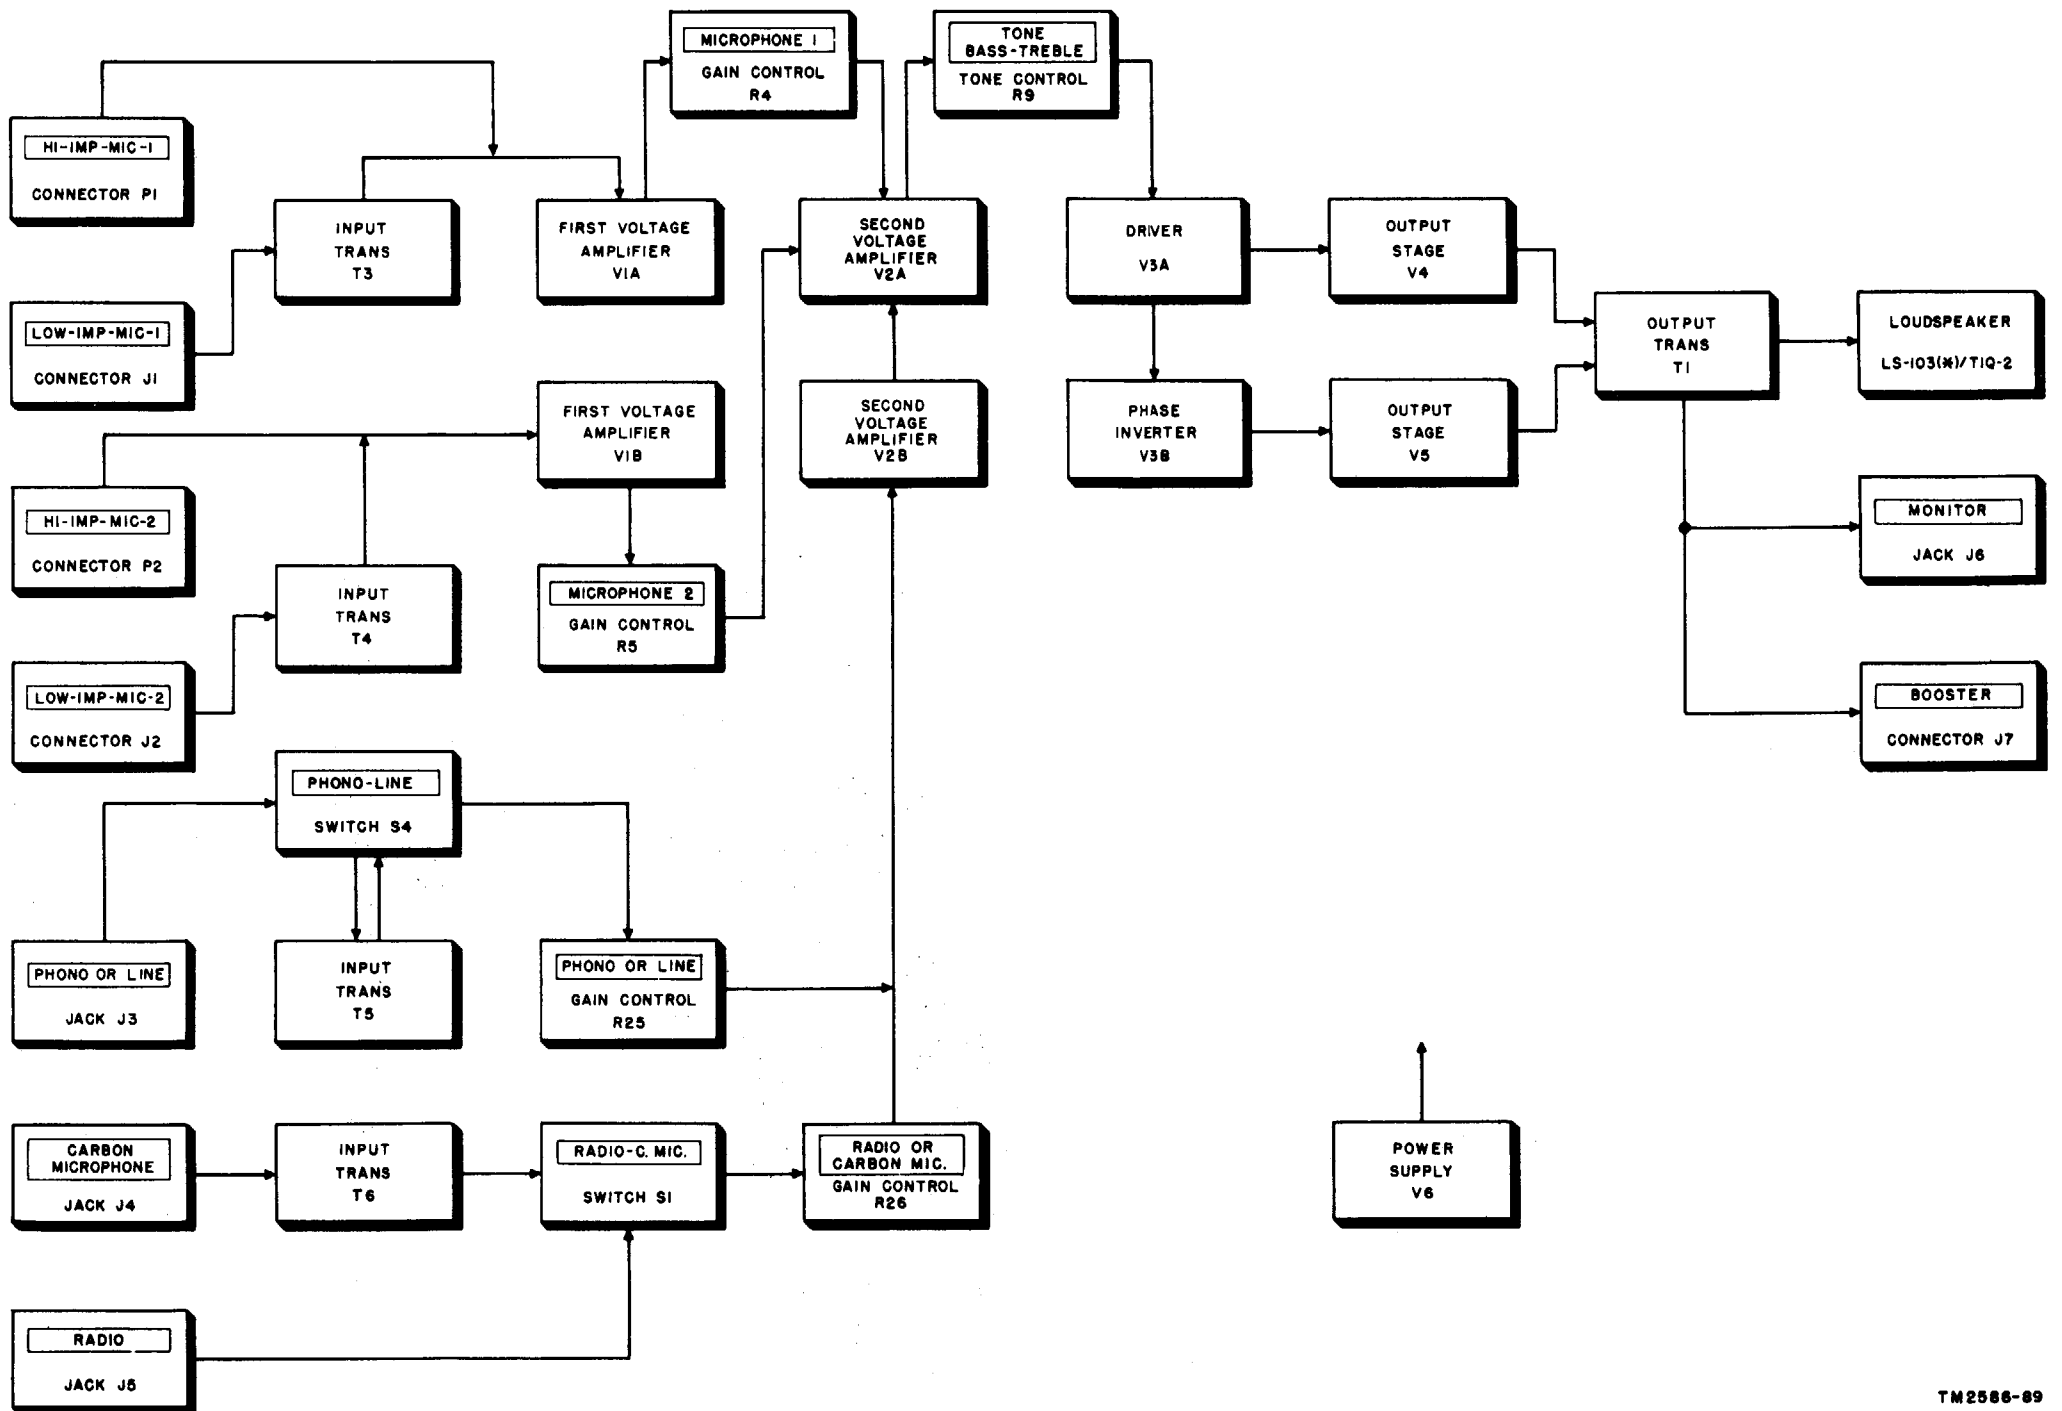

Figure 31. Amplifier AM-20*/TIQ-2, block diagram.
d. The block diagram in figure 31 shows the various circuit stages and the positions they occupy in the amplifier.